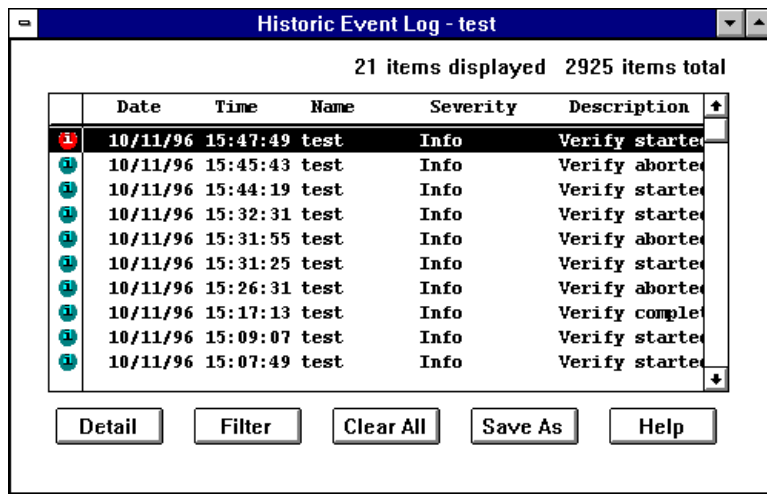

Figure 4-6. Historic Event Log Window
- 1 Click the  button on the toolbar. The Historic Event Log appears, as shown in Figure 4-6.